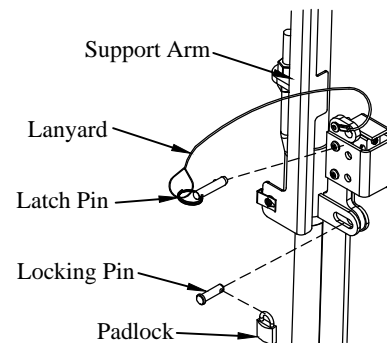

Figure 21: Platform lock.
10. **Insert** the latch pin into the storage hole (Figure 21).
11. **Insert** the locking pin through the hole in the passenger side support arm (Figure 21).
12. **Lock** the padlock through the hole in the locking pin (Figure 21).